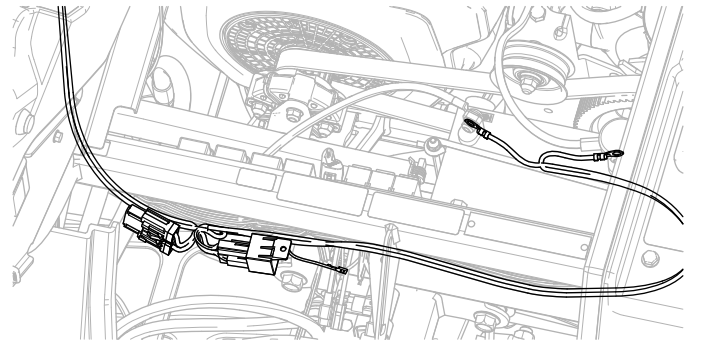

Figure 4
1. Starting from the battery, route the power harness under and along the shock-support tube (Figure 4).